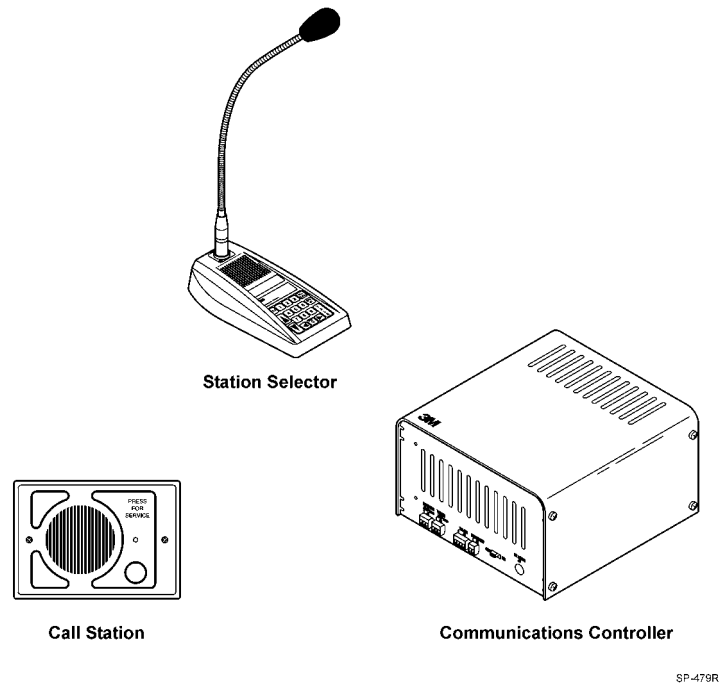

Figure 1. D-2400 Intercom System Components
The system provides two-way audio communication between the Station Selector and the 24 call stations. The system also provides communications between station selectors. It is a single channel, half-duplex, wired system. Figure 1 shows the components.
- Sufficient twisted pair sets of audio cable to connect other components such as Station Selector, Call Stations, etc. See Figure 1.